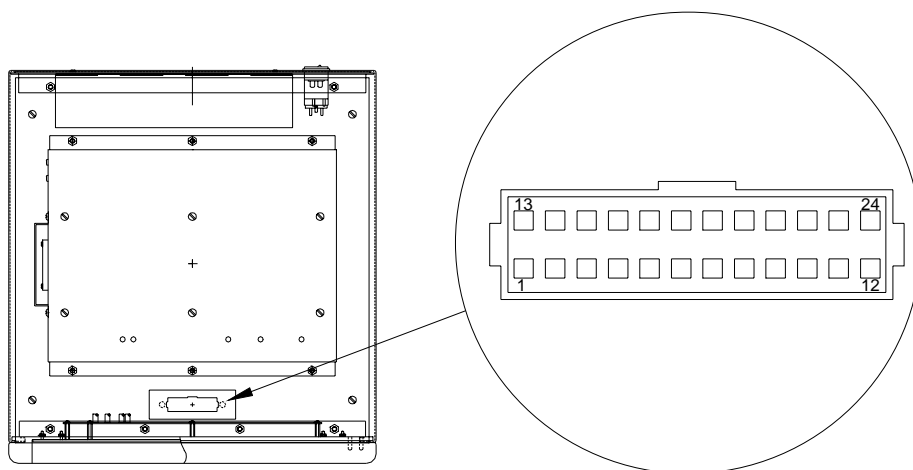

Figure 6-4. Cabinet Connector
Make certain that the unit is turned off and the power cord removed. Use an ohm-meter and connect it to the pins of the cabinet connector as indicated below. See Figure 6-4.
- c. Connect the ohm-meter to pins 1 and 12 (the plunger contact) on the cabinet connector, shown in Figure 6-4.